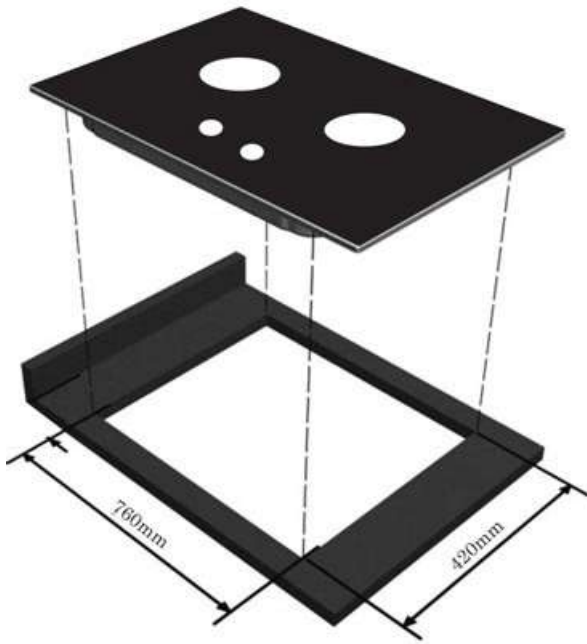

Figure 1 (IGN2 & IGN3)
1. Make sure the gas hob is installed according to the recommended cut out size (Fig 1).